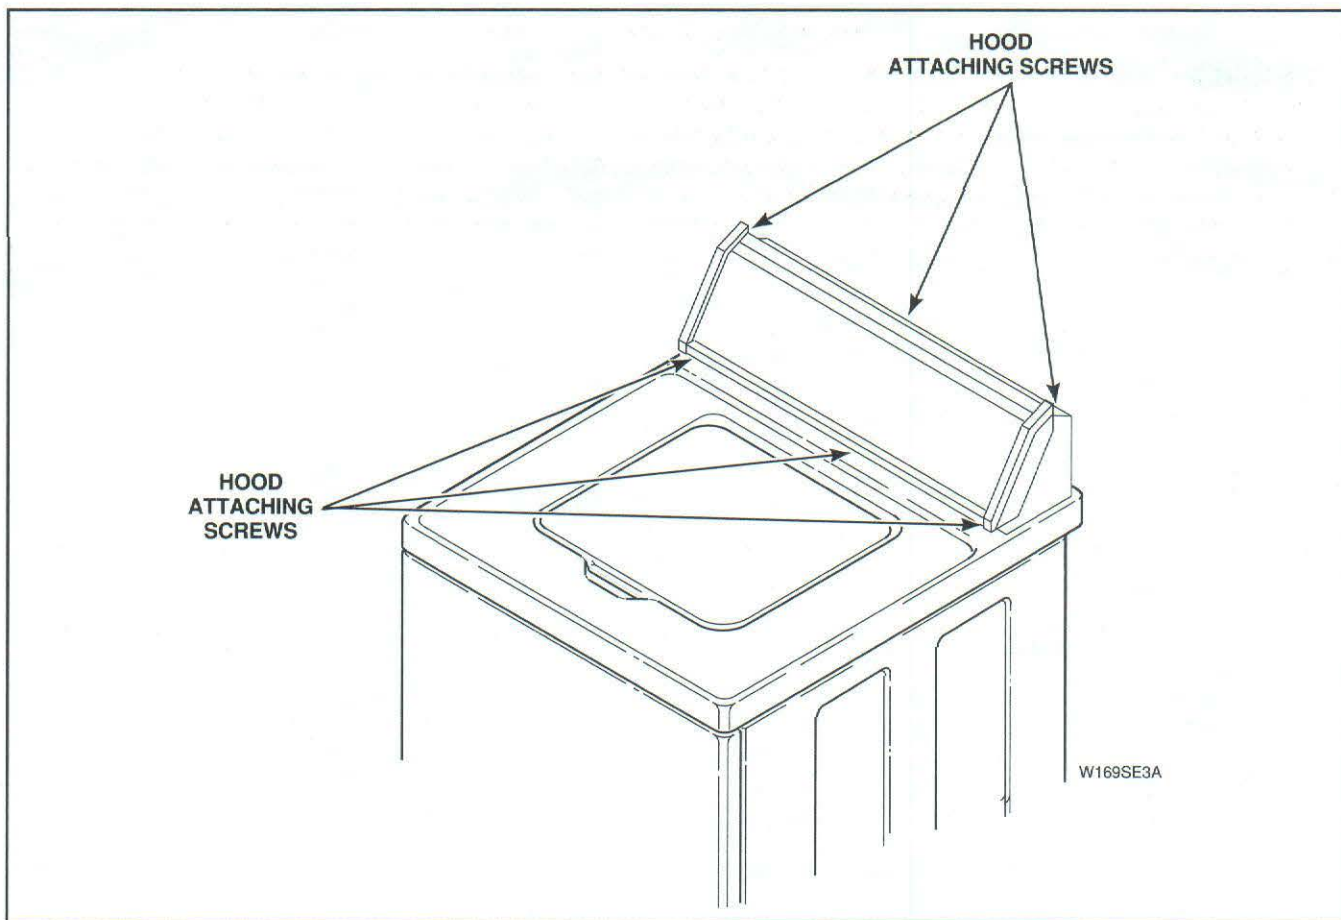

Figure 28
- Remove six screws (3 on top and 3 at lower front) holding hood assembly to control hood rear panel and cabinet top, *Figure 28*.
- Remove six screws (3 on top and 3 at lower front) holding hood assembly to control hood rear panel and cabinet top, *Figure 28*, then set hood assembly on cabinet top on protective padding..